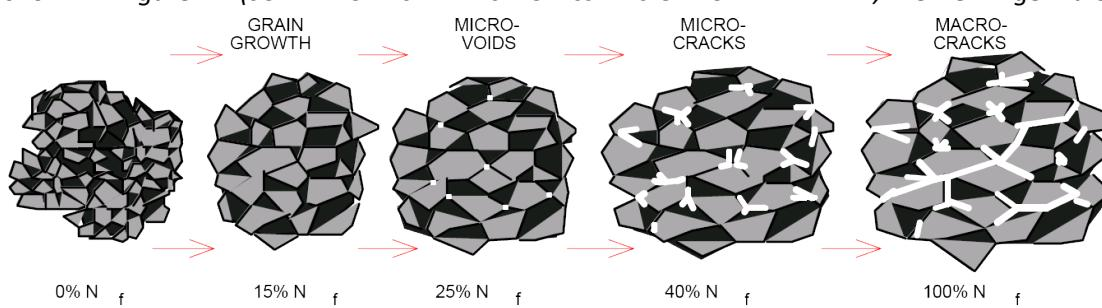

Figure 1: Depiction of the Effects of the Accumulating Fatigue Damage in Solder Joint Structure [1].
*“The grain structure of solder is inherently unstable. The grains will grow in size over time as the grain structure reduces the internal energy of a fine-grained structure. This grain growth process is enhanced by elevated temperatures as well as strain energy input during cyclic loading. The grain growth process is thus an indication of the accumulating fatigue damage. At the grain boundaries contaminants like lead oxides are concentrated; as the grains grow these contaminants are further concentrated at the grain boundaries, weakening these boundaries. After the consumption of ~25% of the fatigue life micro-voids can be found at the grain boundary intersections; these micro-voids grow into micro-cracks after ~40% of the fatigue life; these micro-cracks grow and coalesce into macro-cracks leading to total fracture as is schematically shown in Figure 1.” (SOLDER JOINTS IN ELECTRONICS: DESIGN FOR RELIABILITY, Werner Engelmaier, Page 2)*